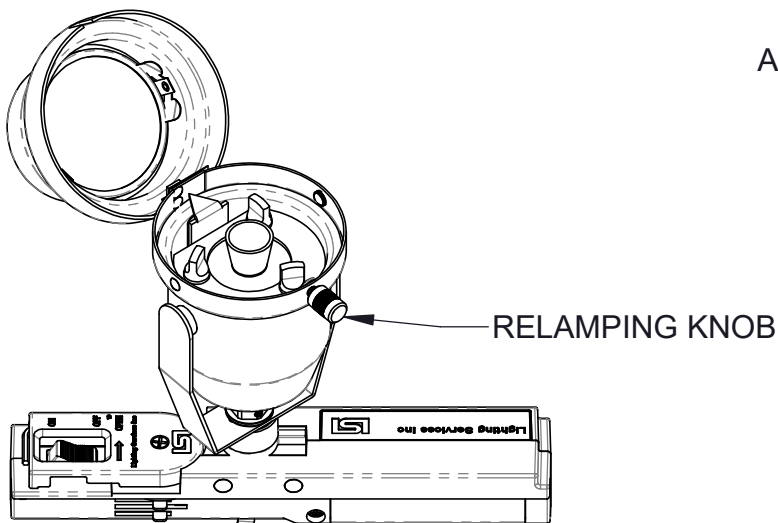

FIGURE 15. FIXTURE FRONT OPEN
2. OPEN THE FIXTURE VIA THE RELAMPING KNOB (FIG. 15).